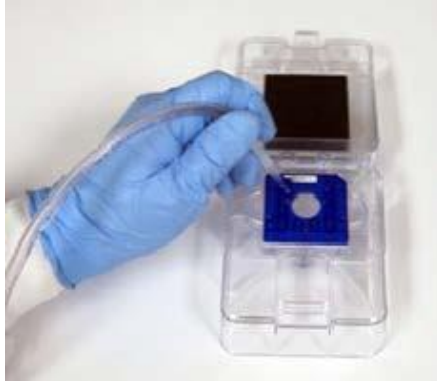

Figure 1. Using a vacuum to aspirate the chip wells is more effective than using a pipette
- 2 Use a pipette tip attached to a vacuum line to thoroughly aspirate all fluid from the chip wells (Figure 1). For details on how to set up a vacuum line, see section “Chip Well Aspiration Using a Vacuum”.